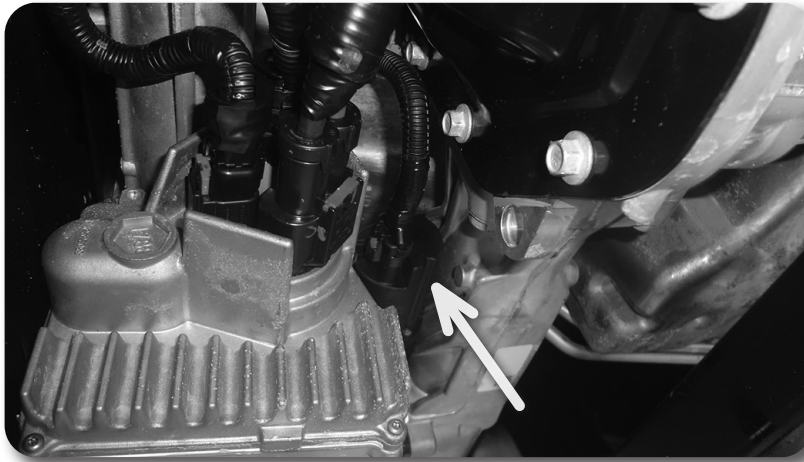

Figure 16
23. Disconnect the differential actuator wire connector from the actuator Fig. 16.